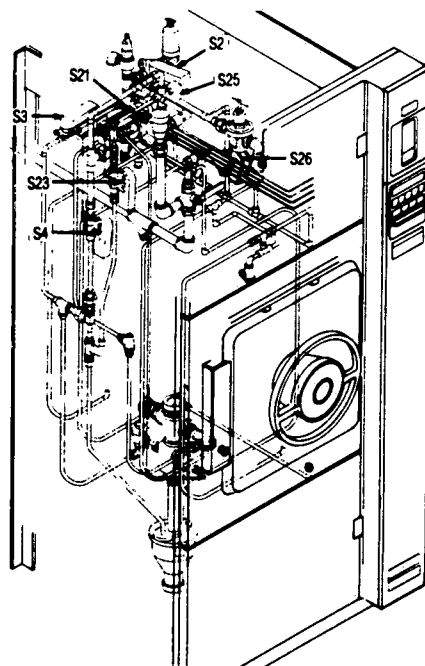

FIGURE 5-8 - Solenoid Valves
- Test these valves by lightly touching the top of each valve core with a small steel screw driver or a steel scribe. See Figure 5-8 for valve locations.